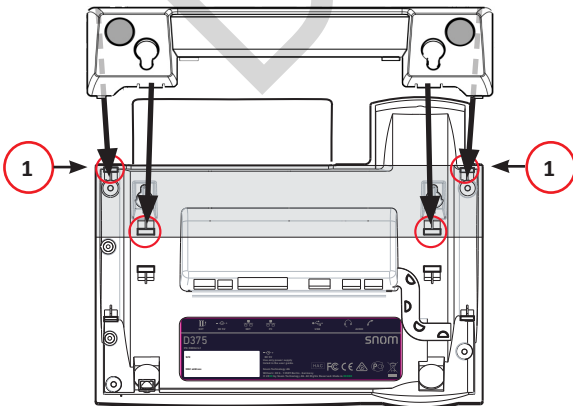

Fig. 1
1. Insert the snap-fits on the longer ends of the footstand into the holes marked ① (Fig. 1 and 2).